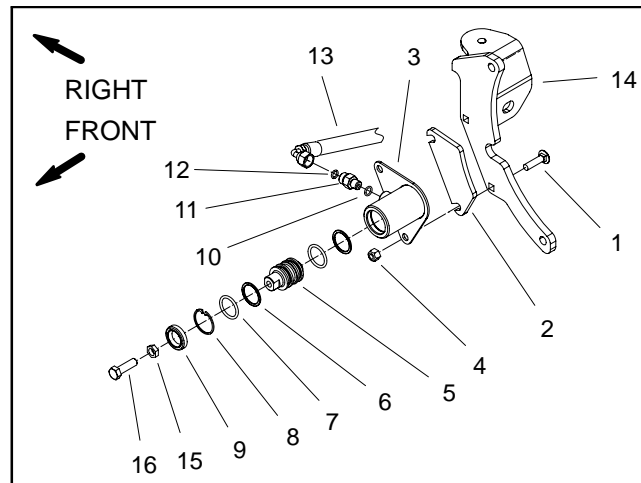

Figure 66
A transport cylinder is included in the traction circuit to reduce traction pump control arm movement when operating in Hi speed (2WD). This reduced control arm movement limits pump swash plate rotation to prevent excessive transport speed. The transport cylinder is attached to the forward, right side engine mount (Fig. 66).
### Disassembly (Fig. 66)
7. Disassemble transport cylinder using Figure 66 as a guide.
### Assembly (Fig. 66)
1. Lubricate all transport cylinder components with clean hydraulic oil. Assemble transport cylinder and install cylinder to engine mount using Figure 66 as a guide. Make sure that cylinder spacer is between transport cylinder and engine mount.